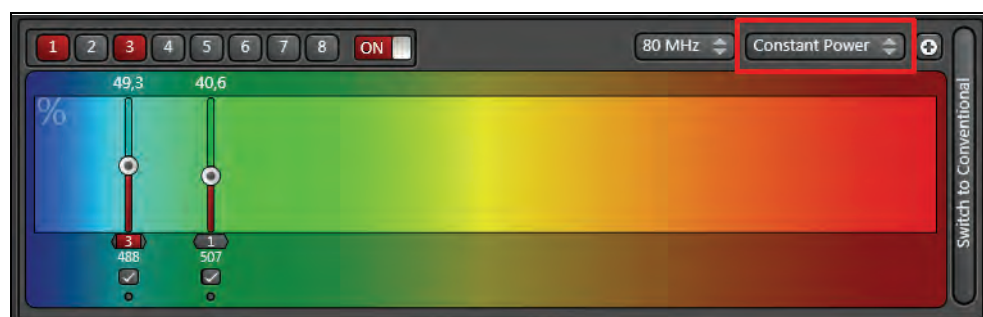

Figure 144: Selecting the Constant Power mode
- In **Beam Path Settings** in the white light laser dialog, select the mode **Constant Power** (Figure 144).